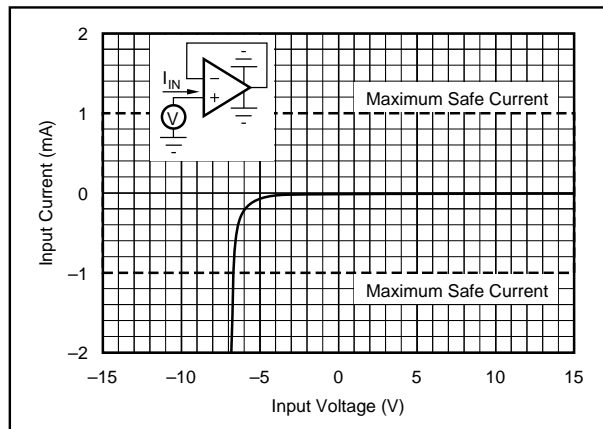

FIGURE 2. Input Current vs Input Voltage with $\pm V_{CC}$ Pins Grounded.
NOTES: (1) Packages must be derated based on $\theta_{JA} = 90^{\circ}\text{C/W}$ for PDIP and 100°C/W for SOIC. (2) For supply voltages less than ±18VDC, the absolute maximum input voltage is equal to $+18\text{V} > V_{IN} > -V_{CC} - 6\text{V}$. See Figure 2. (3) Short circuit may be to power supply common only. Rating applies to +25°C ambient. Observe dissipation limit and T_J .
Unlike BIFET amplifiers, the *Difet* OPA124 requires input current limiting resistors only if its input voltage is greater than 6V more negative than $-V_{CC}$. A $10\text{k}\Omega$ series resistor will limit input current to a safe level with up to $\pm 15\text{V}$ input levels, even if both supply voltages are lost (Figure 2).